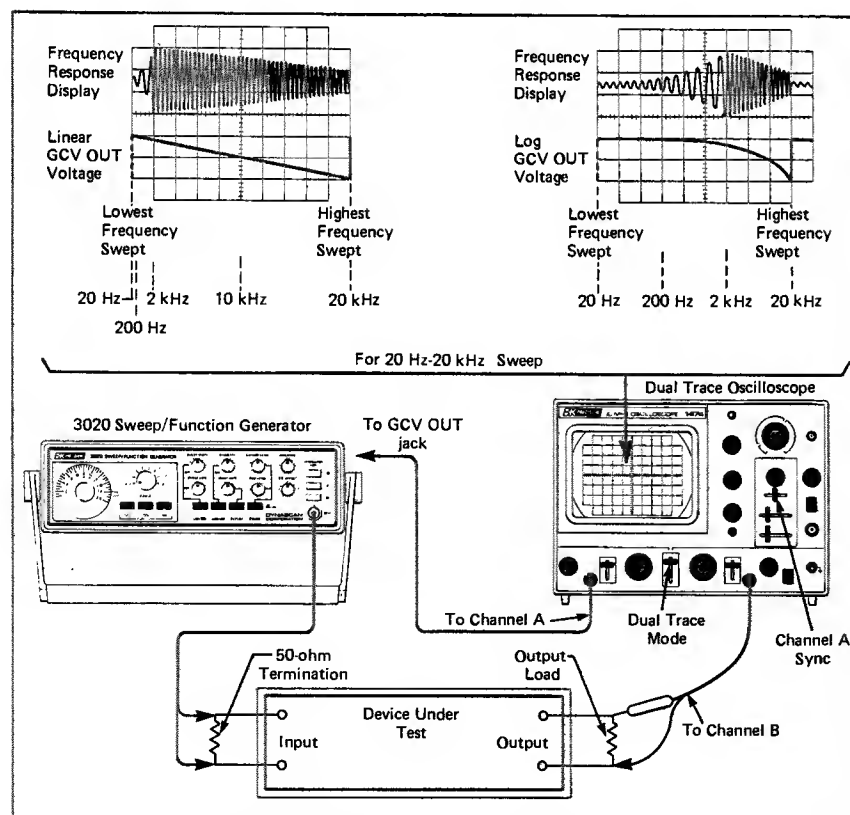

Fig. 27. Frequency response measurement, linear/log display method.
Fig. 27 shows that LIN sweep gives more resolution of high frequency response and LOG sweep gives more resolution of low frequency response. Sometimes it is desirable to examine the frequency response characteristics of a device using both LIN and LOG sweep. Notice that this method also provides the conventional left-to-right sweep pattern to which most technicians are accustomed.
The following procedures, along with Fig. 27, describes the typical set-up and technique for linear/log frequency response measurements.
13. Readjust oscilloscope sweep speed to spread one cycle of the waveform over some convenient number of horizontal division. Each division can later serve as a frequency marker if the corresponding frequency is calculated. For example, a linear display may be spread over 10 horizontal divisions. Since the lowest and highest frequencies are already known, the difference may be divided into 10 equal increments. The example in Fig. 27 shows a 20 Hz to 20 kHz linear sweep display spread over 10 divisions. The difference between the lowest and highest frequency is almost 20 kHz. Therefore, starting from the left of the display at 20 Hz, each division equals a frequency increase of 2 kHz. When log display is used, frequency increases at a logarithmic rate and markers between the lowest and highest frequencies must be scaled logarithmically. The example in Fig. 27 shows a 1000:1 log sweep display spread over nine horizontal divisions. Each three divisions equals a decade of frequency change; that is, after three divisions, the frequency has increased one decade or 10:1 (from 20 Hz to 200 Hz), after six divisions the frequency has increased another decade or 100:1 (to 2 kHz), and after nine divisions the frequency has increased another decade or 1000:1 (to 20 kHz).
If a dual-trace oscilloscope is used, use the channel A attenuator/gain controls to reduce the amplitude of the sweep voltage waveform to about two vertical divisions and position the channel A trace toward the bottom of the screen as shown in Fig. 27. Sync the oscilloscope to the channel A signal. Connect the channel B input of the oscilloscope to measure the voltage across the output load of the circuit being tested.